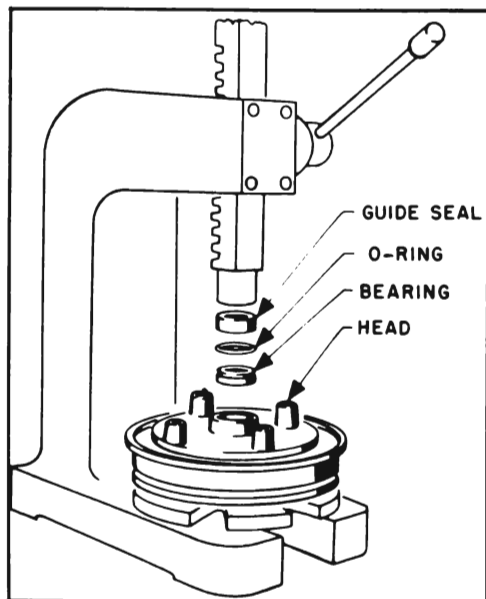

Figure 8-14—Installing Parts in Head
13. Install *new* greased guide seal with *felt* side up, using care to preserve grease on seal. Using arbor press, apply only enough load to *outside edge* of seal to press it snugly against the bearing. *Do not crush seal*. See figure 8-14.